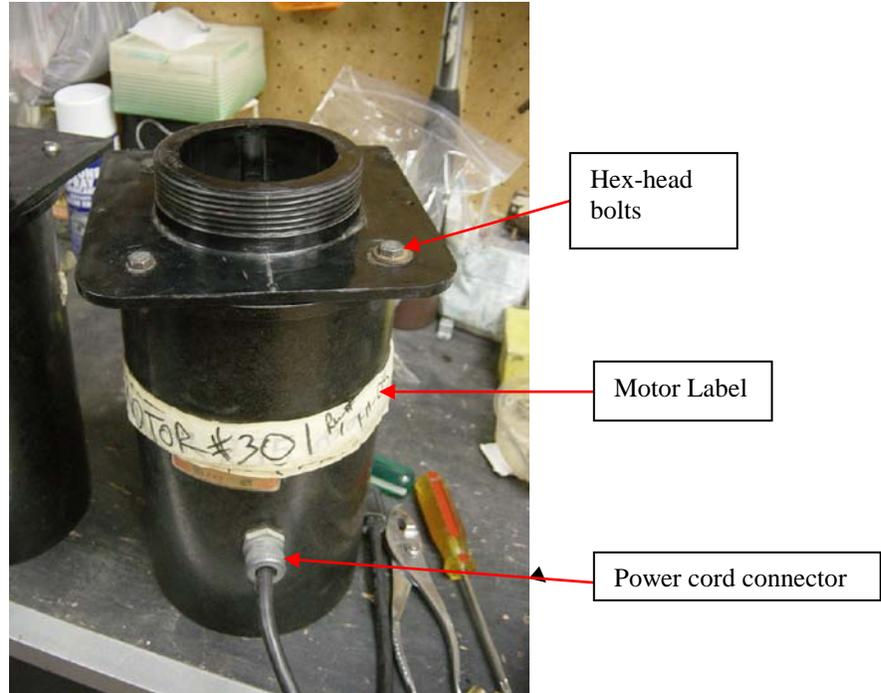

Figure 7-2. Motor Mounting Plate Cover and Housing
1. Remove the mounting plate motor cover by removing the four hex-head bolts or screws (Figure 7-2).
2. Release the power cord by turning the cap of the power cord connector (Figure 7-2) counter-clockwise. After unscrewing the cap, slide the cap, metal washer and rubber gasket toward the plug end of the cord.
11. Replace the mounting plate motor cover and tighten the hex-head screws. Make sure the mounting plate cover is oriented so that the curved corners of the mounting plate face toward the side of the power cord (Figure 7-2).